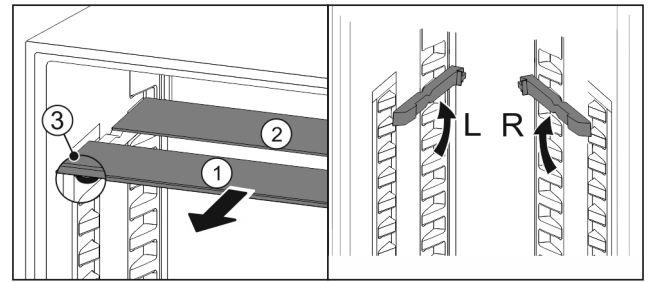

Fig. 27
- ▶ Pull the glass panels out Fig. 27 (1) from the front, one at a time.
- ▷ The glass panel Fig. 27 (1) with the trim strip is at the front.
- ▷ The stops Fig. 27 (3) point downward.